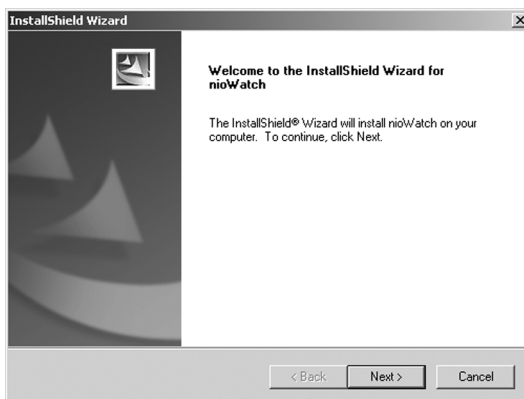

Figure 30
1. Click **“Next”** on the Welcome Screen of the BARCO NioWatch InstallShield Wizard (figure 30 on page 55) to begin the installation or click **“Cancel”** to cancel and return to the BarcoMed Product Install Wizard.